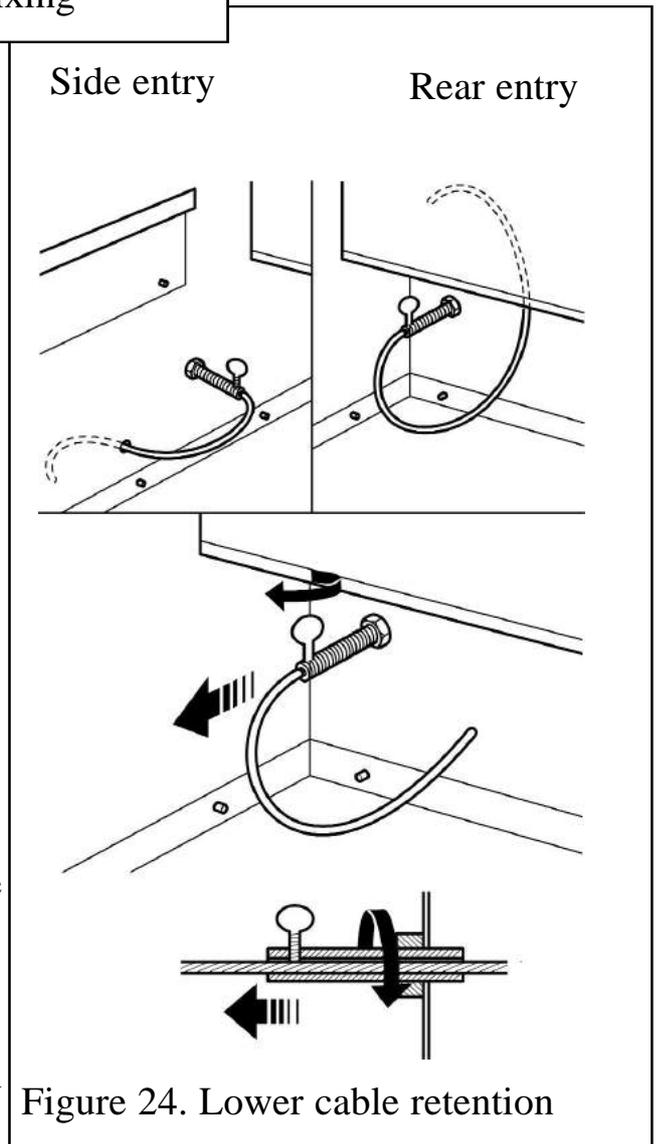

Figure 24. Lower cable retention
11. Pull each cable taut. Push the cable retainers hard up against the back panel. The end of the cable adjuster will pass into the hole. Tighten the screws in the retainers so that they clamp the cables in position. Apply tension to the cables by turning the hexagonal adjusters by hand (See figure 24).
14. Feed the free length of the cables into the gap between the inner and outer back panels so that they are available to allow easy removal and refitting of the appliance during subsequent service calls. **Do not cut off the free lengths of cable.** On precast flue installations feed the cables into the small holes at the base of the side panels (See figure 24)